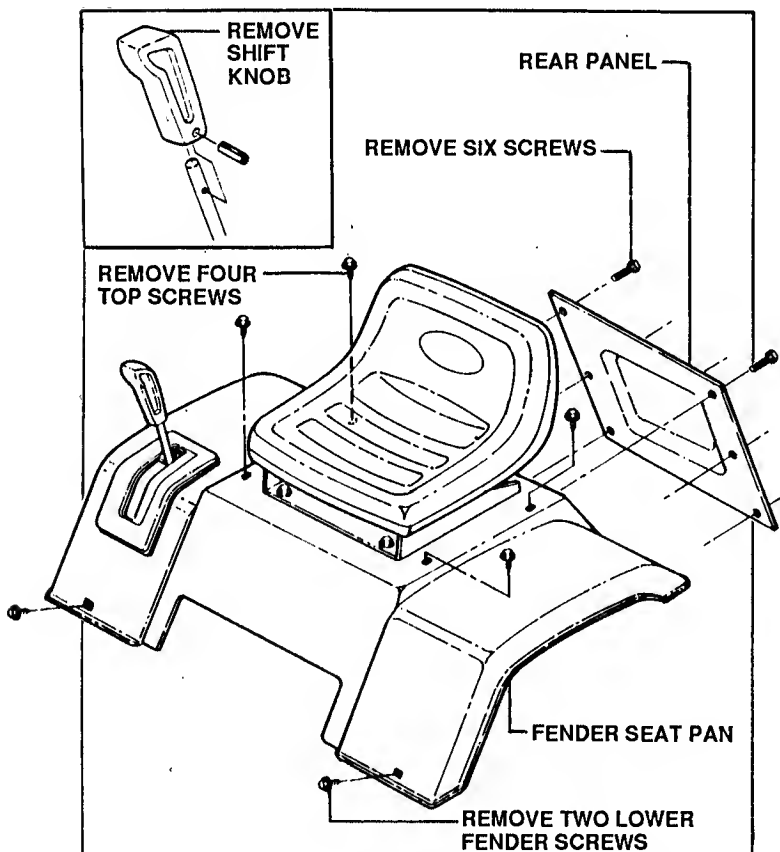

FIGURE 15
- **TRANSMISSION DIFFERENTIAL:** Remove rear panel or fender seat pan to gain access to differential. See Figure 15.
1. Remove six (6) screws.